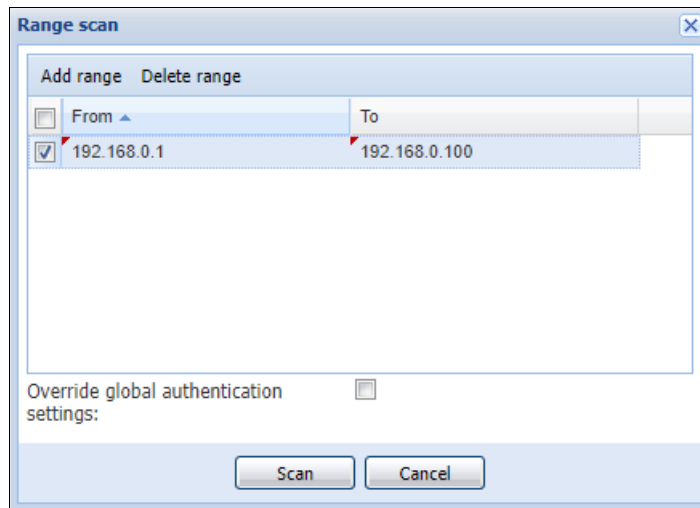

Figure 23 Range scan settings
- ▶ **Range scan:** This option is used the most. Click **Add Range** and enter the starting IP address and ending IP address of the range you want to scan. This method can be used to discover devices that are outside of the network segment. The dialog box is shown in Figure 23.